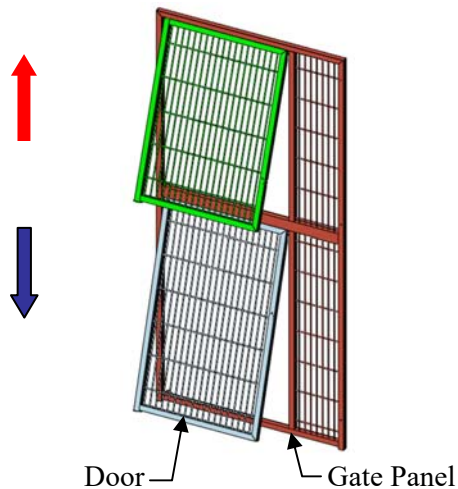

Figure 2
2. Locate the Gate Panels and remove the Door from each Gate Panel. Slightly open and lift up on the door. Once the Door clears the hinge pin at the bottom, pull the bottom of Door toward you (**Figure 2**). Pull the top of the Door down until the top of the Door clears the top hinge pin.